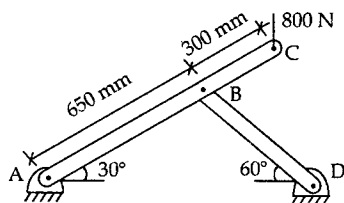

Fig. 10
- (b) For the frame shown in fig.10 determine the magnitudes of all pin reactions.